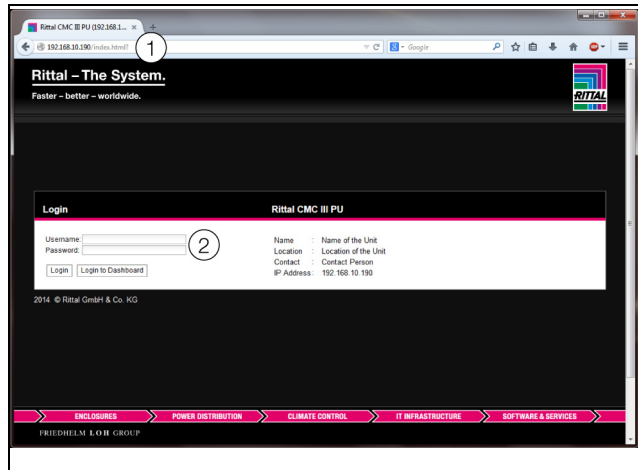

Fig. 12: Login page for an HTTP connection
- Enter the **http://192.168.0.190** address in the browser (fig. 12, item 1). The login dialogue to log in to the device will be displayed.
- Login as **admin** user with password **admin** (fig. 12, item 2).